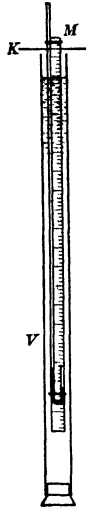

FIG 9
**I. Verification of the law of depths and densities.** (a) *Measurements in water* Immerse the manometer *M* of Fig 9 to the greatest depth possible in the long glass vessel *V* filled with water \* A length of at least 1 m is desirable (see tube of Exp 40)